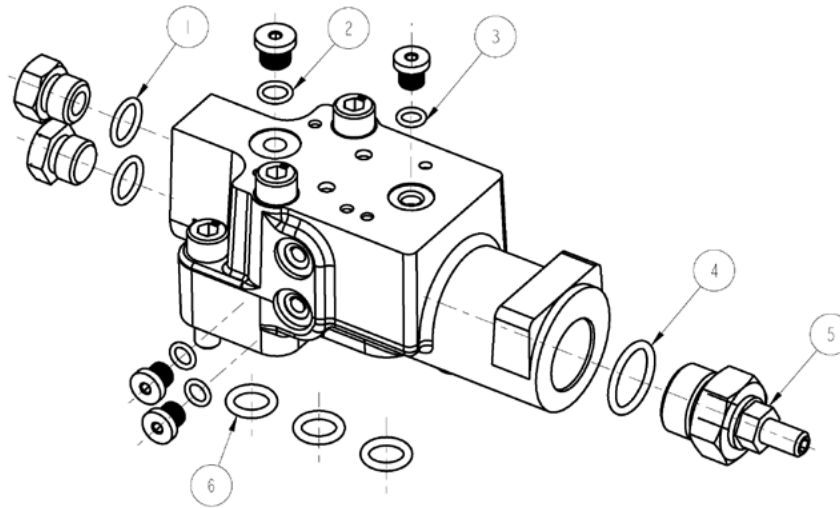

Figure 31
1. Remove the oil pipe (Figure 31, 122) and remove it at both ends.
2. Remove the joint (Figure 31, 126) and the joint (Figure 31, 121).
3. Remove the tee (Figure 31, 119), which contains a damping plug (Figure 31, 120).
4. Remove the torque valve (Figure 31, 118).
1. Install the torque control valve (Figure 31, 118). Set the installation height as shown in Figure 2. After adjusting the height, tighten the torque control valve with a torque of 40 - 44 Nm.
2. Install the tee (Figure 31, 119), which contains the damping plug (Figure 31, 120). Tighten the tee with a torque of 33-35 Nm.
3. Install the joint (Figure 31, 126) and tighten it with a torque of 14-16 Nm.
4. Install the joint (Figure 31, 121) and tighten it with a torque of 20-22 Nm.
5. Install the oil pipe (Figure 31, 122) and tighten both ends with a torque of 14-16 Nm.